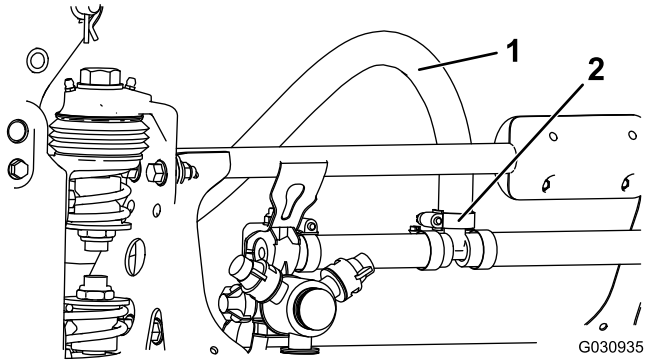

Figure 2
- Loosen the hose clamps of the 2 hoses attached to the left and right booms and remove the hoses (Figure 2).